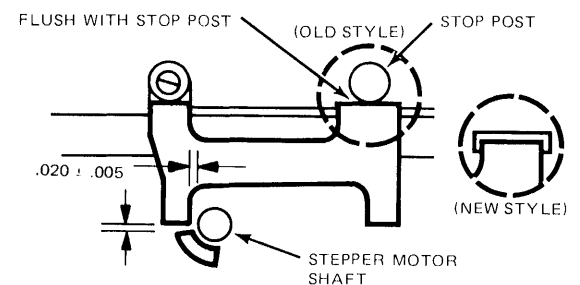

FIGURE 6. CARRIAGE LIMITER ADJUSTMENT
- Position the stop until it is flush with stop post (old style) or in the slot (new style) on the carriage assembly. Reference figure 6. Adjust the track zero carriage limiter horizontally and vertically until there is $.020 \pm .005$ between the stop on the acuator cam and the stepper motor shaft. Reference figure 6.